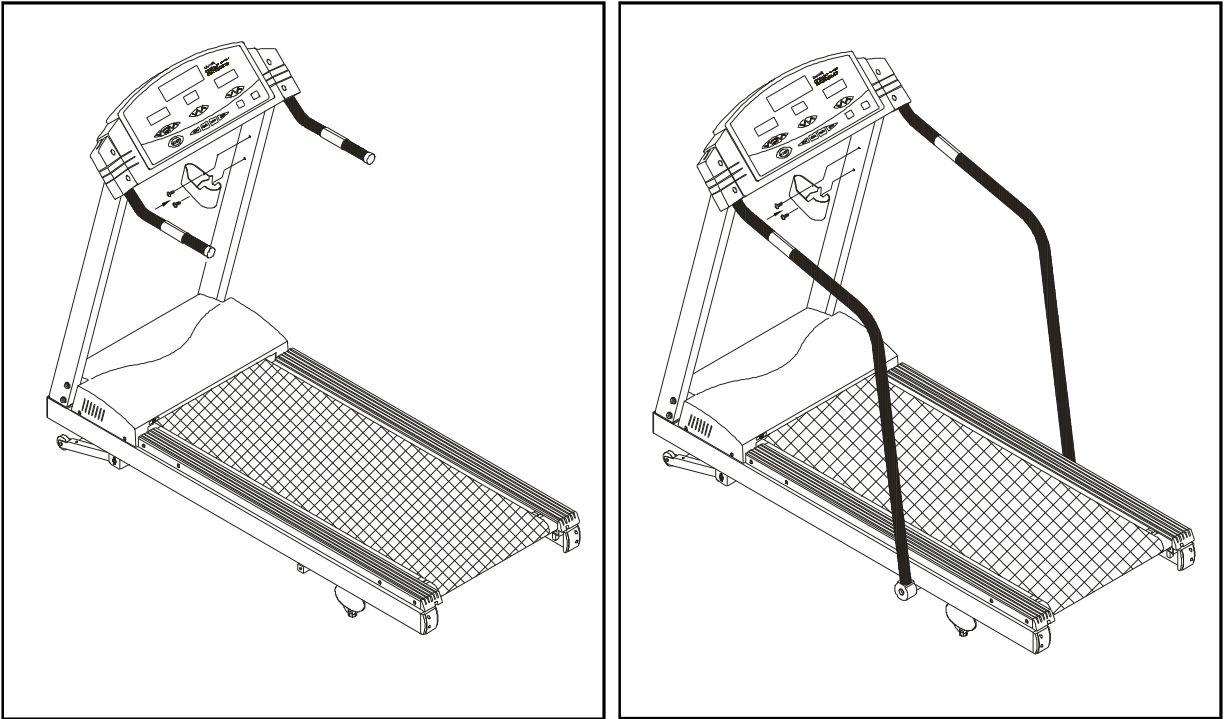

Fig.5
8. Assemble the water bottle/personal stereo holder to the right front post using the screws provided (see Fig. 5).